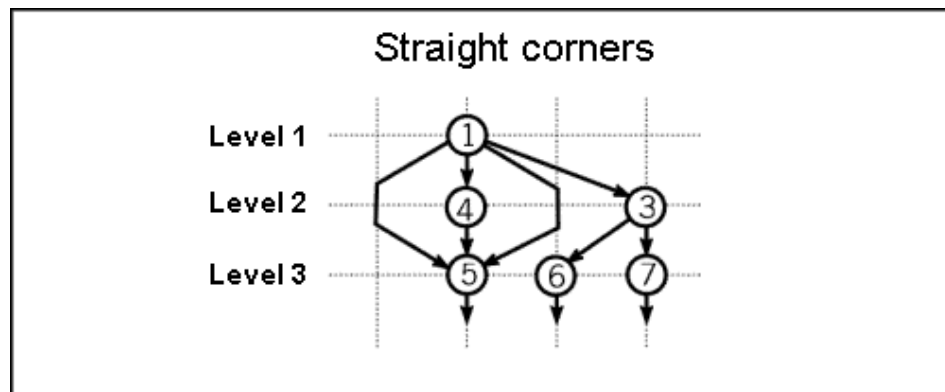

Figure 138: Schematic representation - Straight corners
- **Straight corners:** Additional horizontal or vertical segments are inserted in all relations stretching over one or more layers, in order to further minimize the overlapping of objects and relations (see fig. 138, p. 171).